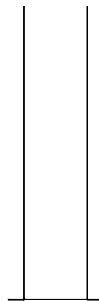

Figure 23
TABLE 3 - FRAMING DIMENSIONS (in inches) FOR FIGURES 23 - 25
2. The brackets have a perforation located on each end. Bend them at the perforation. See Figure 23.